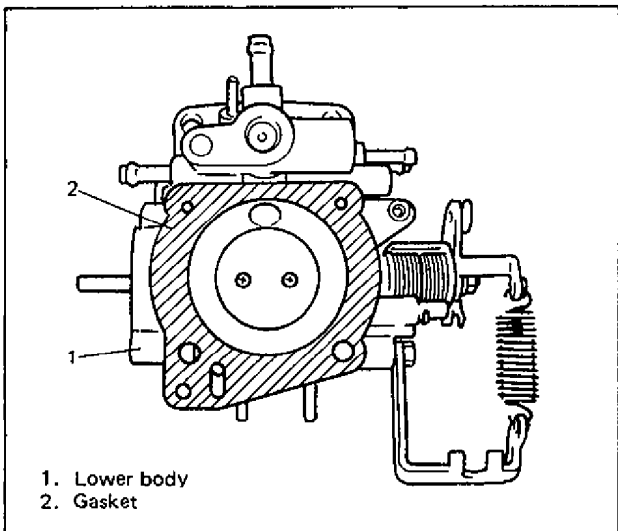

Fig. 6E-105 Installing Gasket
3. Tighten screws indicated by "5" in Fig. 6E-103 to specified torque.